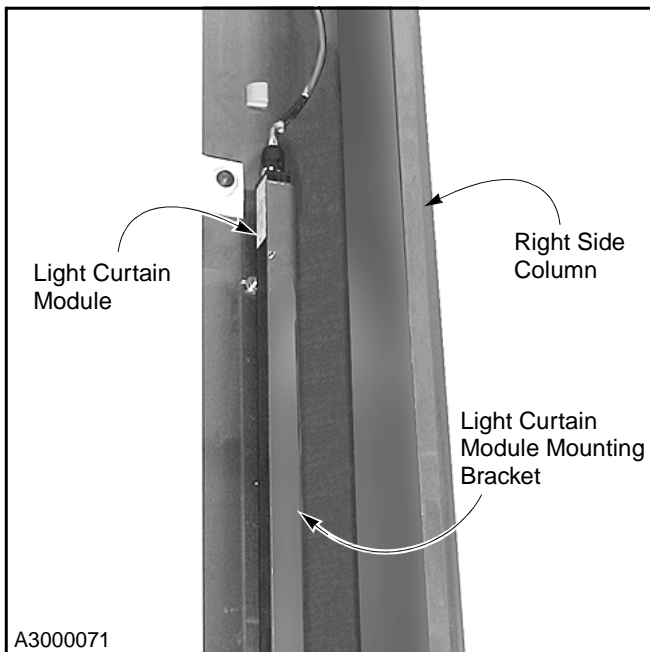

Figure 25
4. Remove the light curtain module from the right side column — the module can remain in its mounting bracket. Save all hardware. (Refer to “LIGHT CURTAIN MODULES” on page 10 for instructions on removing the module.) (See Figure 25.)